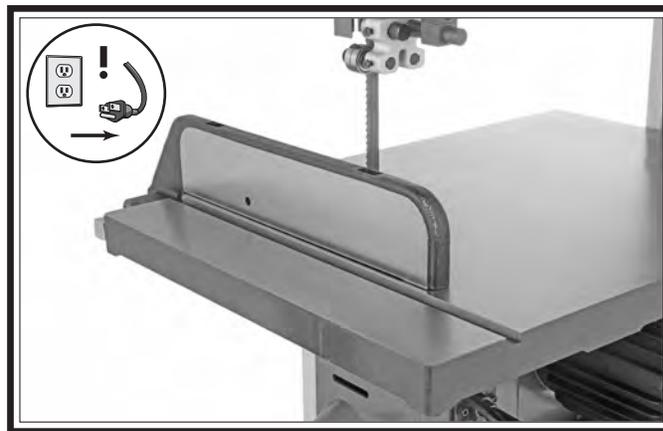

Figure 47. Fence even with the miter slot.
3. Mount fence on right side of blade and even with the miter slot, as shown in **Figure 47**.